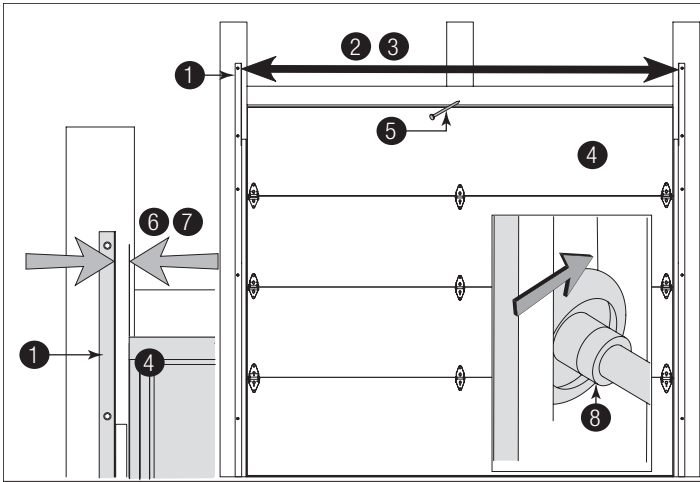

Figure 39
**See Figure 39 for the following steps.**